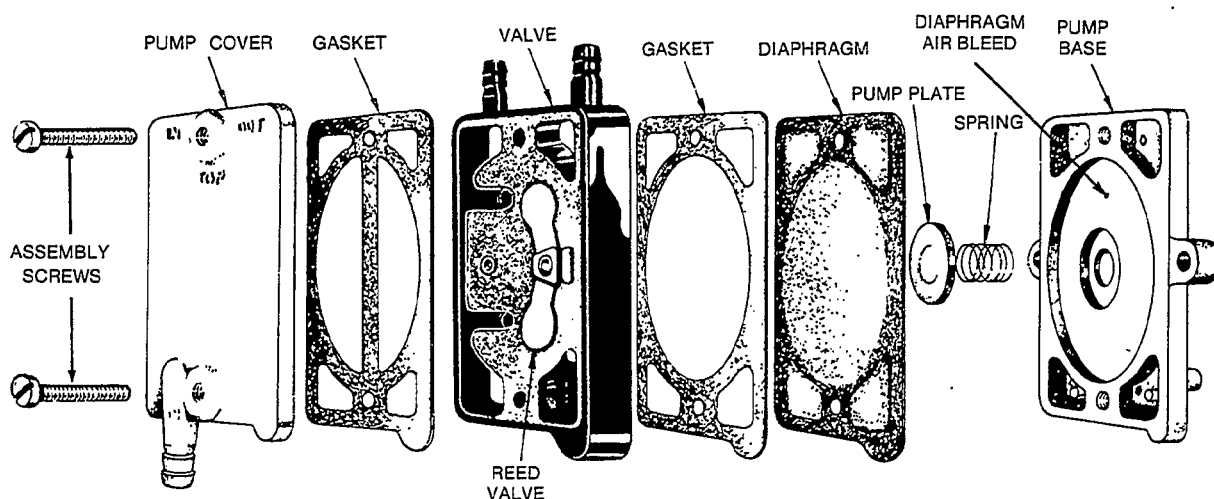

FIGURE 18. EXPLODED VIEW OF FACET PULSE PUMP
4. Carefully pull apart the pump sections and check for worn or damaged parts. Replace with new parts where necessary or install pump repair kit (Figure 18).
5. Check and unclog (if necessary) the small diaphragm air bleed hole located behind the pump diaphragm in the pump base (Figure 18).